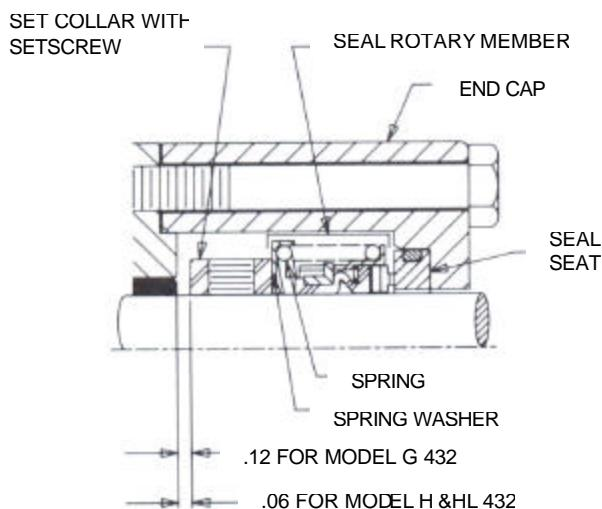

FIGURE 15 – SECTIONAL VIEW, SEAL AREA
Install the mechanical seal: Place the set-collar on the shaft and tighten setscrew. See Figure 15 for set-collar location.
2. The spring washer and spring must be put on the shaft first and in that order. (See Figure 15).